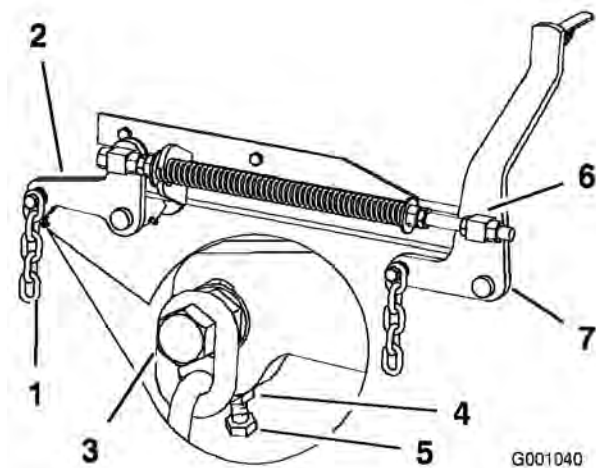

Figure 69
7. If the measurements at positions **B** or **C** are not correct, loosen the bolt attaching the rear chain to the rear support arm (Figure 69).
- Loosen the jam nut under the rear support arm and adjust the adjustment bolt to get a measurement of 3-1/8 to 3-1/4 inches (Figure 69).
- Loosen the front swivel jam nuts, at the front of the right and left swivels, approximately a 1/2 inch (13 mm) (Figure 69).
- Adjust the lift nuts on both the left and the right side of the machine to achieve 1/4 to 3/8 inch (6 to 10 mm) lower in front at **A** than in the rear at **B** (Figure 69).